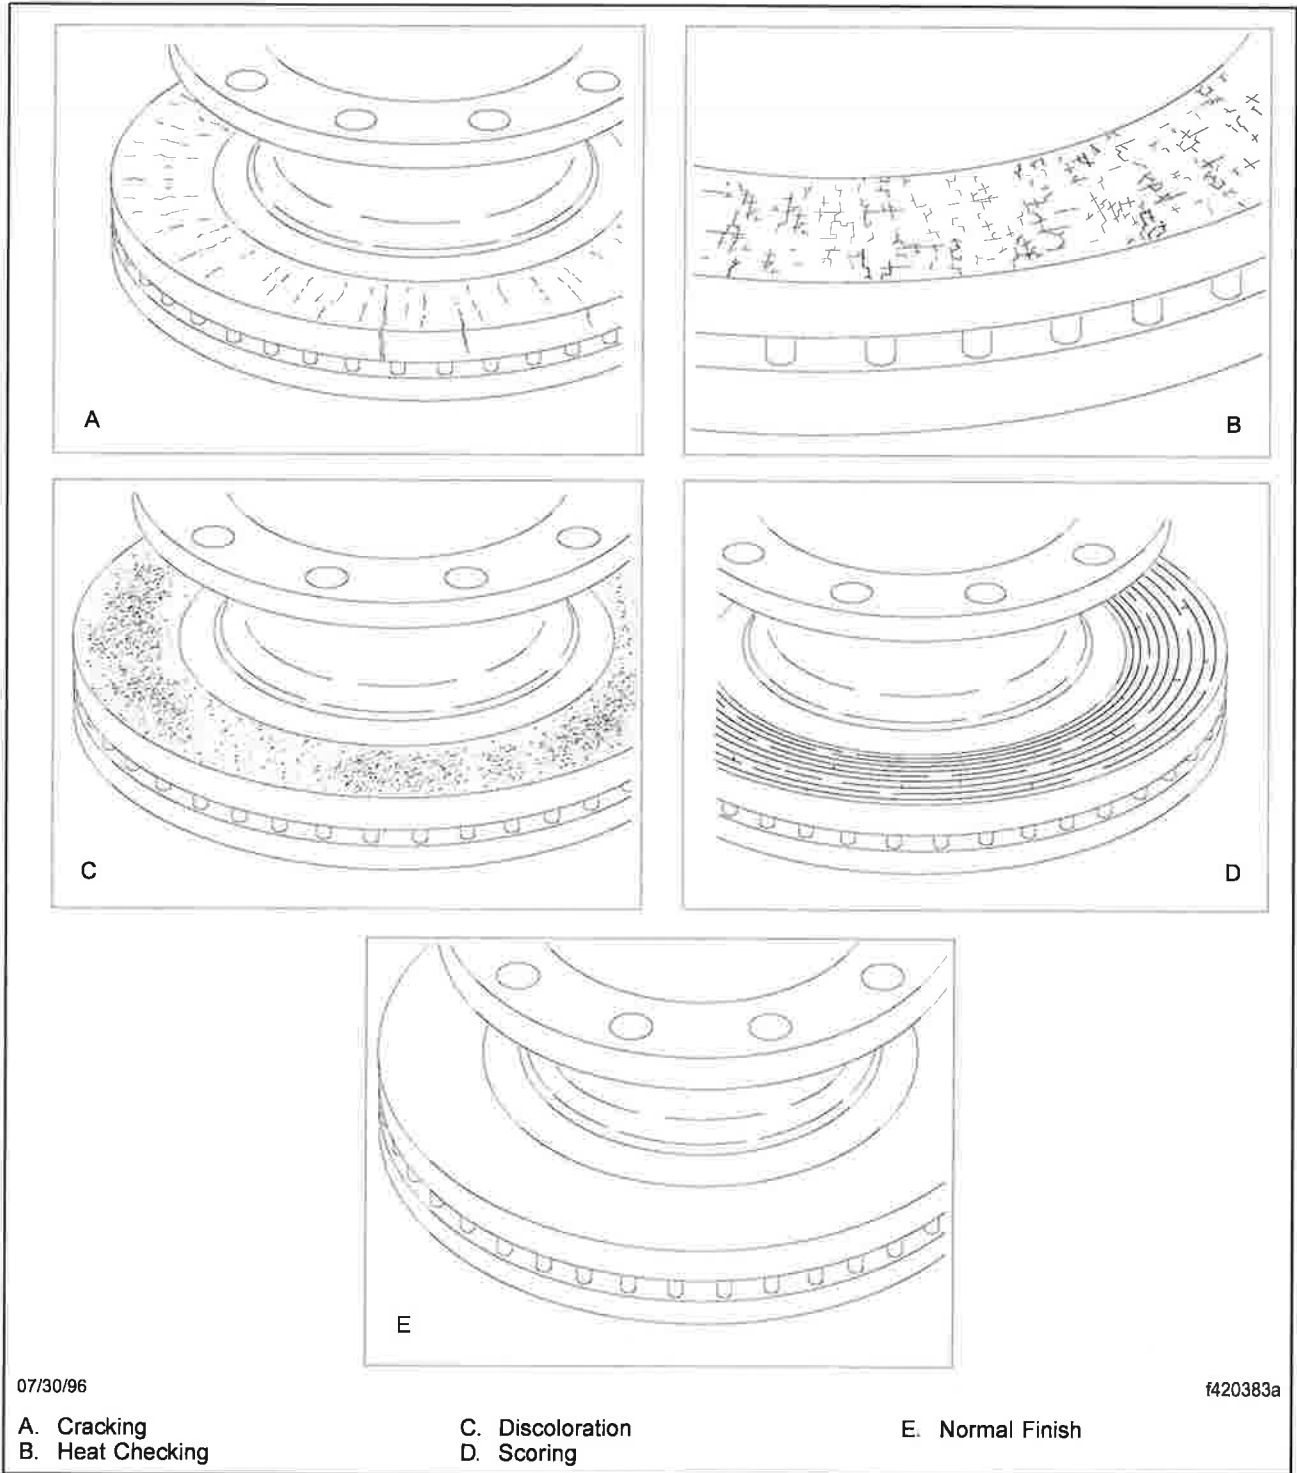

Fig. 6, Rotor Surface Check
15. Inspect the rotor for scoring, warping, large radial cracks, bluing, heat spots, or other damage. See Fig. 6. If any damage is found, replace the rotor per Table 5 - Rotor Surface Check. Heat checking, and other damage without signs of excessive heat, is not a replaceable condition.